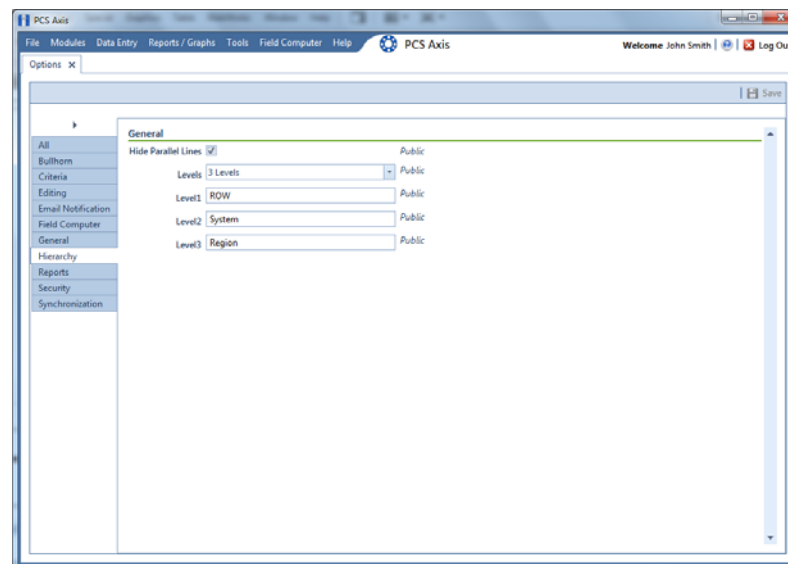

Figure 3-4. Hierarchy Levels
- 4 Click the **Hierarchy** tab to open hierarchy options page (Figure 3-4).